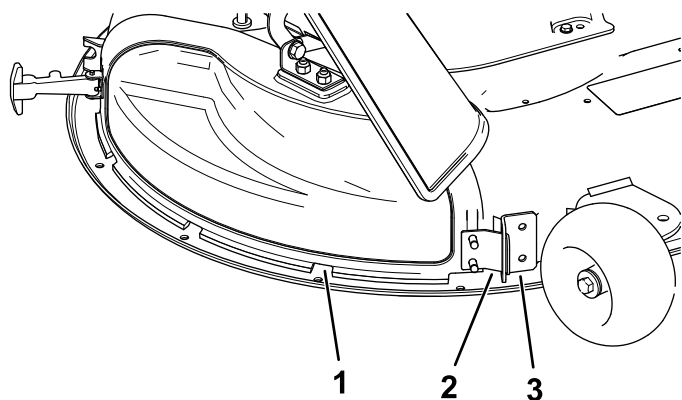

Figure 12
5. Angle the metal tab on the discharge cover out of the slot in the bracket welded to the mower deck (Figure 12).